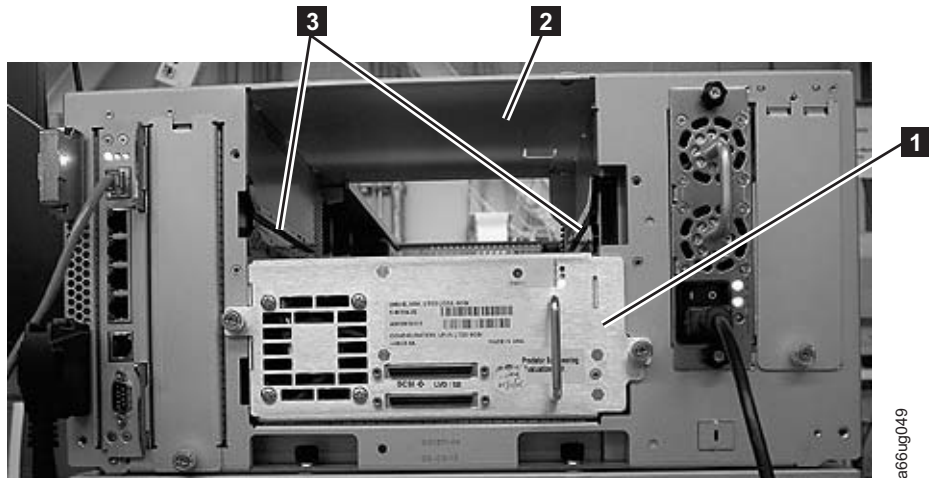

Figure 4-31. Guide rails and guide slots inside a drive slot
1. Align the drive sled with the guide rails and guide slots along the tracks (**3** in Figure 4-31 on page 4-27).